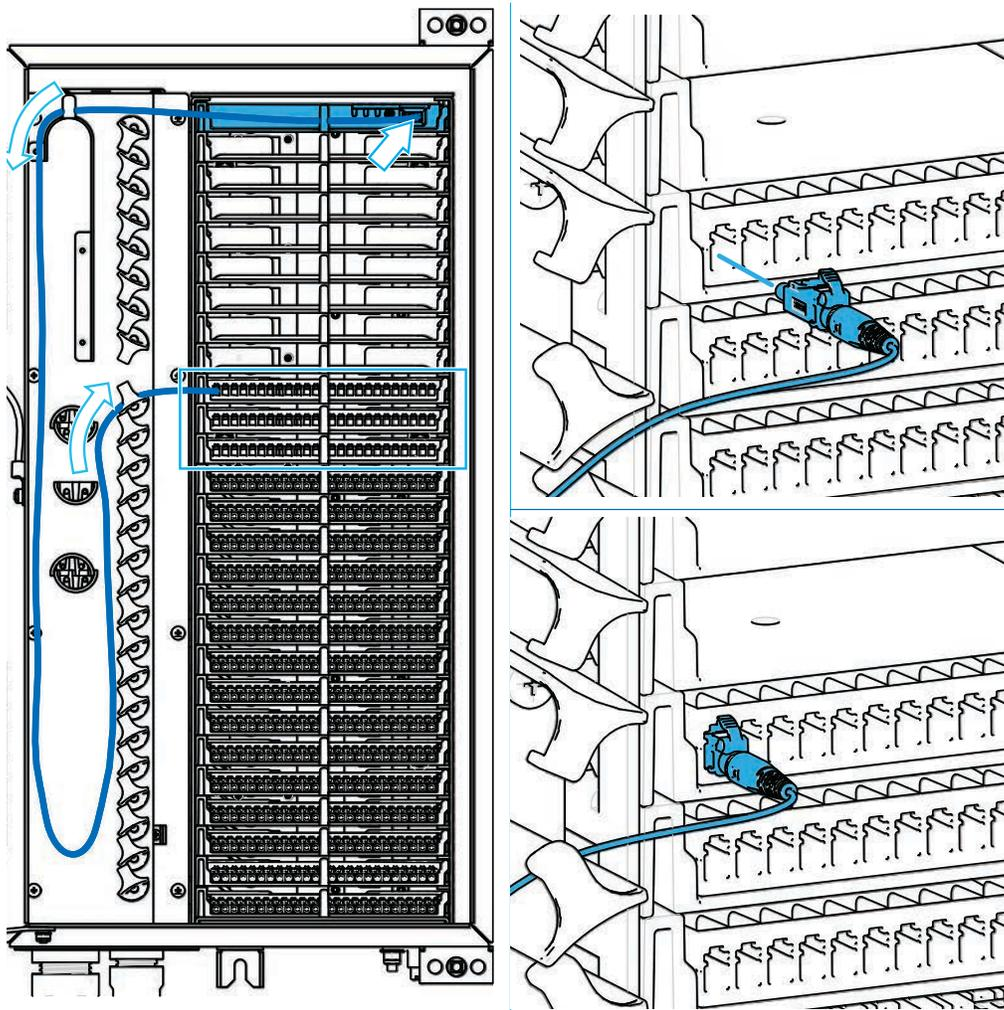

Figure 20. Temporarily use of parking lot
2. Select and remove an unused splitter output fiber from the parking lot as shown in Figure 20 and carefully work it free of any other fibers, route it downwards to the subscriber adapter packs (12 last rows in the adapter panel).